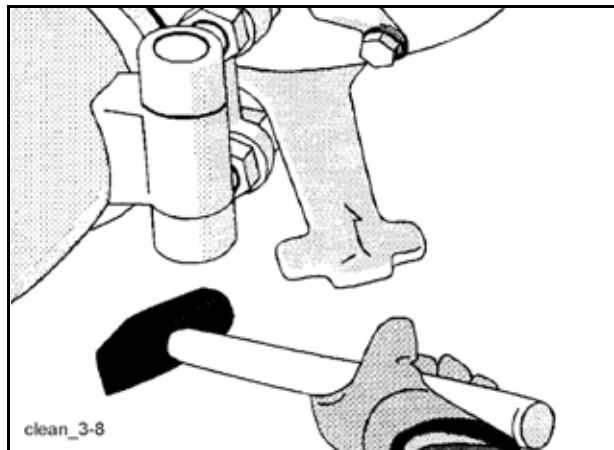

Fig. 254 Open cleaning flap
- Open the cleaning flap (**Fig. 254**) under the rock valve housing.